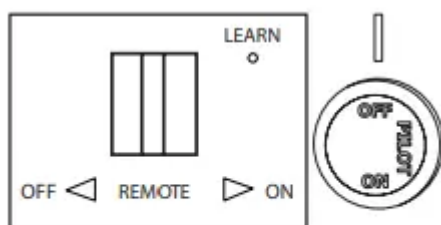

Fig. 26 - Receiver & Control Knob
2. Set receiver switch to "ON" position (See Fig. 26).
3. Turn control knob clockwise  to the "OFF" position (See Fig. 26).
4. Wait five (5) minutes to clear out any gas. Then smell for gas, including near the floor. If you smell gas, STOP! Follow “B” in the safety information as noted above. If you don’t smell gas, go to the next step.
5. Push in slightly and turn control knob counterclockwise  to the “PILOT” position (See Fig. 26). Depress control knob.